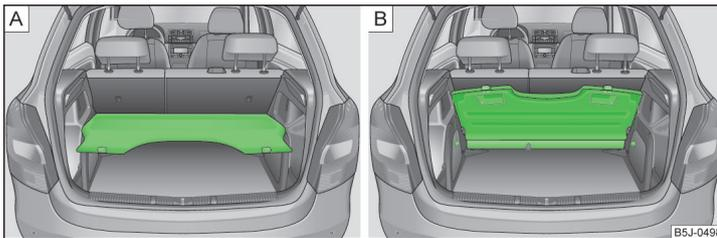

Fig. 65 The luggage compartment cover: Stowed in the lower position/ behind the rear seats
- In the lower position on the support elements » Fig. 65 - A » !
- Behind the rear seats » Fig. 65 - B.
In this position » Fig. 65 - A the luggage compartment cover is designed for small objects up to a weight of 2.5 kg.